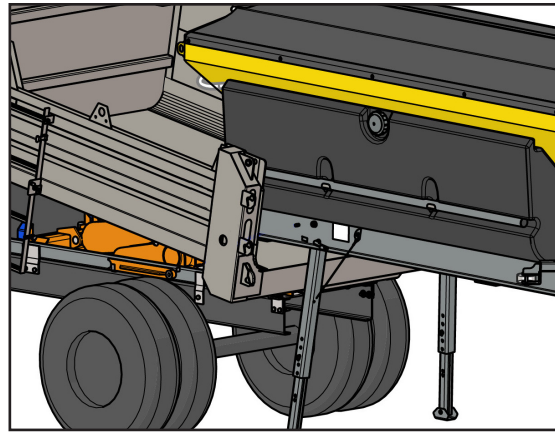

Figure 1 - Loading
2. Figure 1 - Back truck underneath spreader until spreader's front leg supports leave the ground.